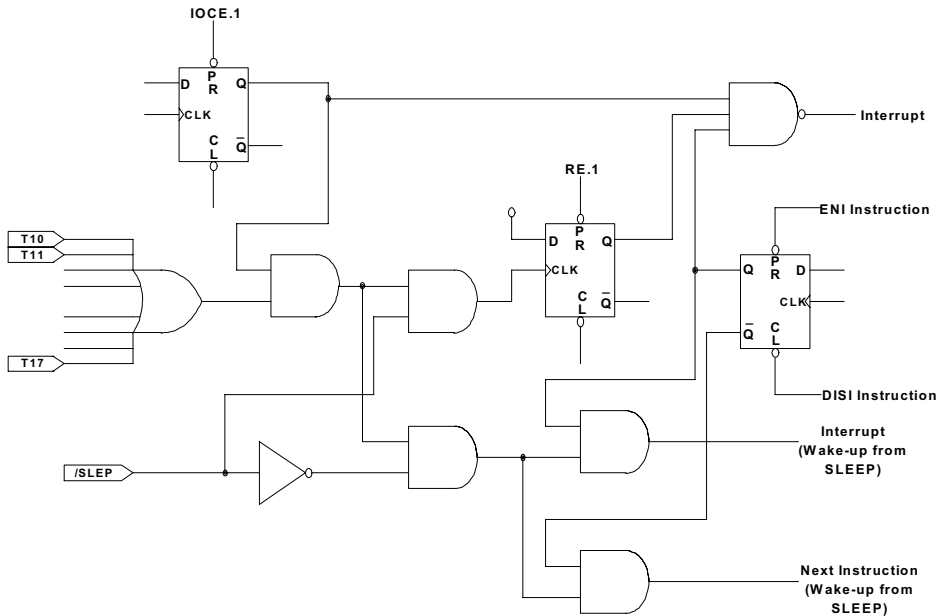

Fig. 7(c) Block Diagram of I/O Port 6 with Input Change Interrupt/Wake-up
- 1: /INT, external interrupt pin. In this case, the I/O control bit of P60 (bit 0 of IOC6) must be set to "1".When EIS is "0", the path of /INT is masked. When EIS is "1", the status of /INT pin can also be read by way of reading Port 6 (R6). Refer to Fig. 7(a).